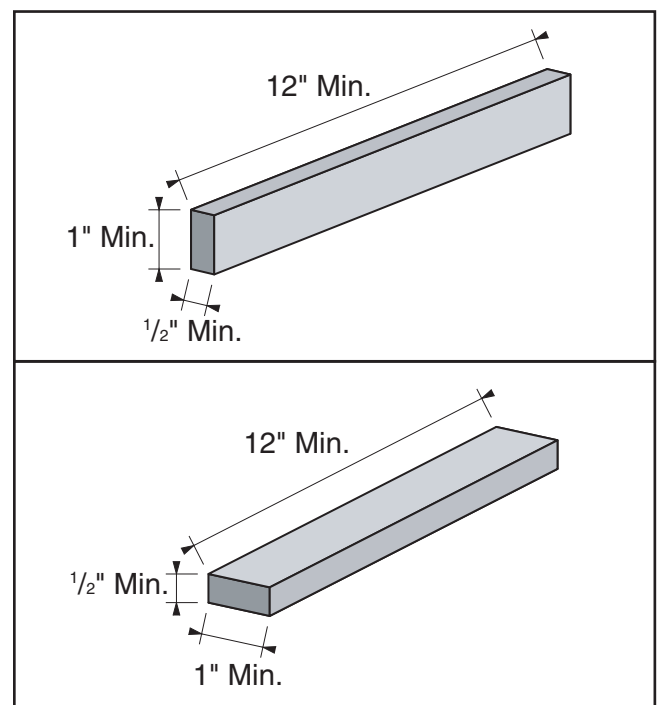

Figure 20. Minimum stock dimensions for the jointer.
- **Make sure your workpiece exceeds the minimum dimension requirements, as shown in Figure 20, before processing it through the jointer, or the workpiece may break or kickback during the operation.**